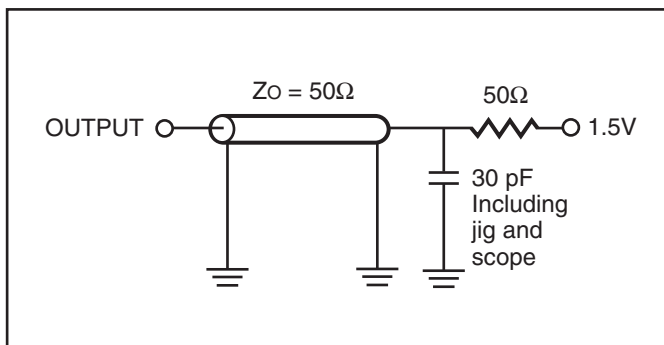

Figure 1.
| Output Load   | See Figures 1 and 2   |
1. Test conditions and output loading conditions are specified in the AC Test Conditions and AC Test Loads (Figure 1).